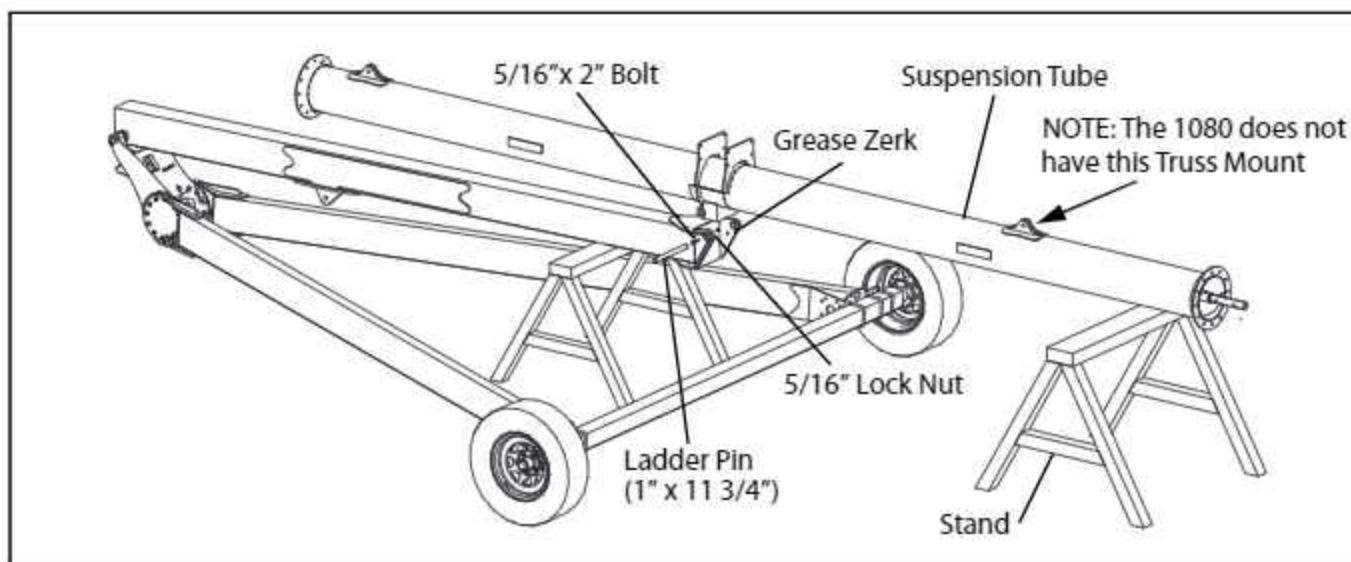

FIG. 3-3. Installing the Suspension Tube
5. Place a stand where shown in Fig. 3-3. Bring in the Suspension Tube Assembly and attach it to the Ladder Tube using the 1" Ladder Pin (1" x 11 3/4" long). Secure the pin in place using a 5/16" x 2" bolt and lock nut.